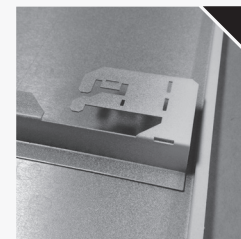

FIG. 1
- 1 Deploy the seismic securing brackets to match the ceiling grid web height as shown in figures 1 and 2.